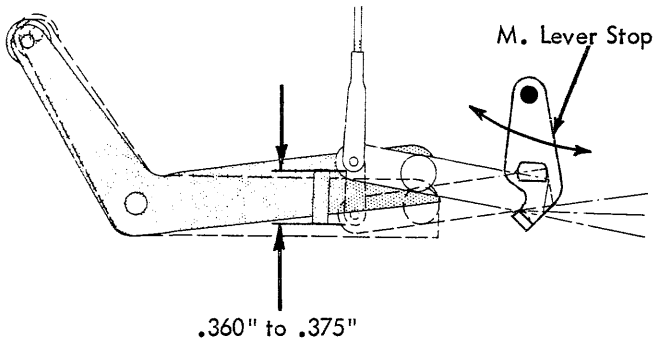

FIGURE 151. Multipliering Lever Stop (New Style)
2. Multipliyng Lever Stop (Fig. 151) - Adjust the multipliyng lever stop front or rear to produce .360" to .375" (approximately 3/8") motion to the index link when the carrier return/index cam is operated to its high point (platen removed).